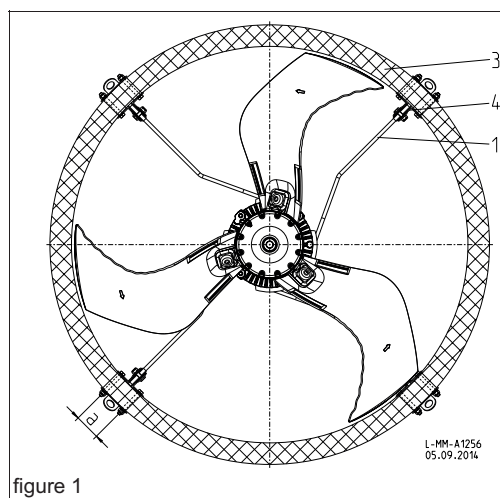

figure 1
Mark the mounting bracket (4) in accordance with **fig. 1** in the chimney (3) using a 4 x 90° template, drill hole center distance "a" in accordance with the mounting bracket (4).